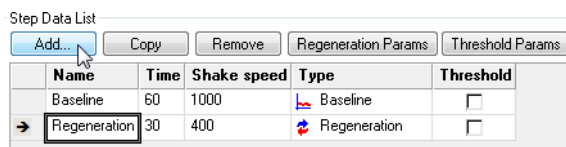
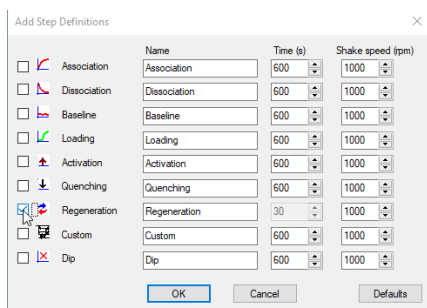

Figure 9-33: Add Button
Figure 9-34: Add Step Definition Dialog Box
2. Click **Add** (Figure 9-33) to display the Add Step Definition dialog box (Figure 9-34).